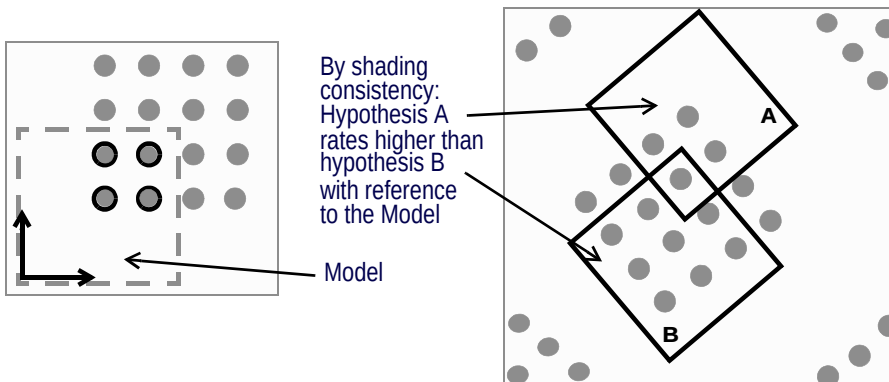

Figure 157 Instance Ordering - Shading Consistency
- **Shading Consistency** orders instances according to their shading consistency (or color, depending on the input image) with respect to the Model, beginning with the strongest. This mode is useful for BGA applications, where the shading or color information, in addition to the normal contour information, can assist in discriminating between very similar hypotheses. See the example in Figure 157.